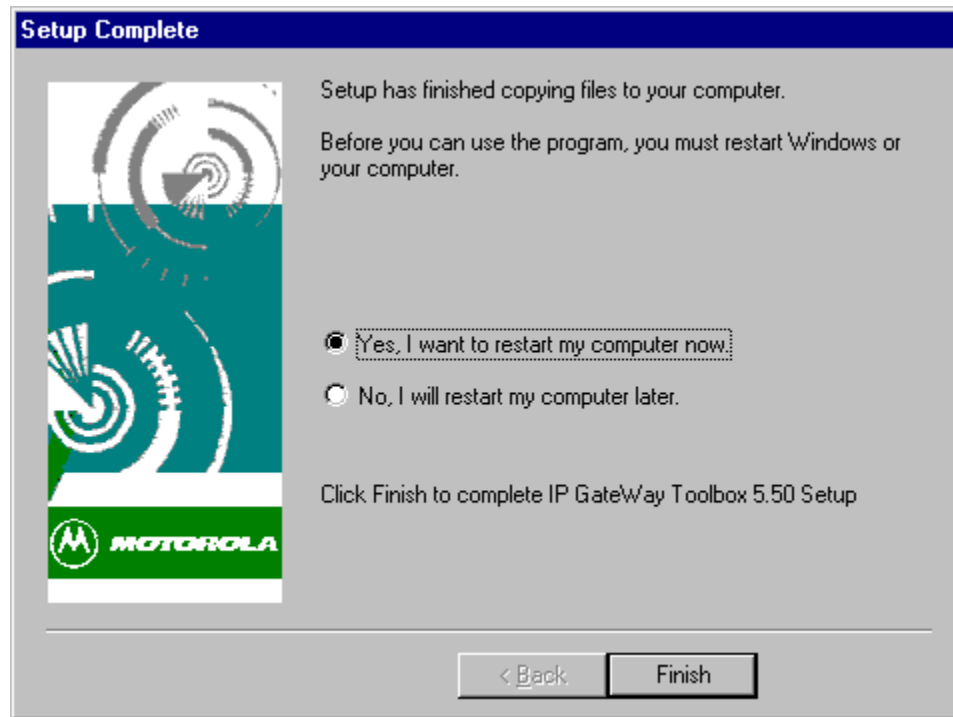

Figure 4-10: Setup Complete screen
10. When the last installation diskette is copied, setup displays a confirmation message indicating that the installation was successful (see Figure 4-10). After completion of the installation process, specify whether you want to view the Readme file, then click **FINISH** to complete the setup.